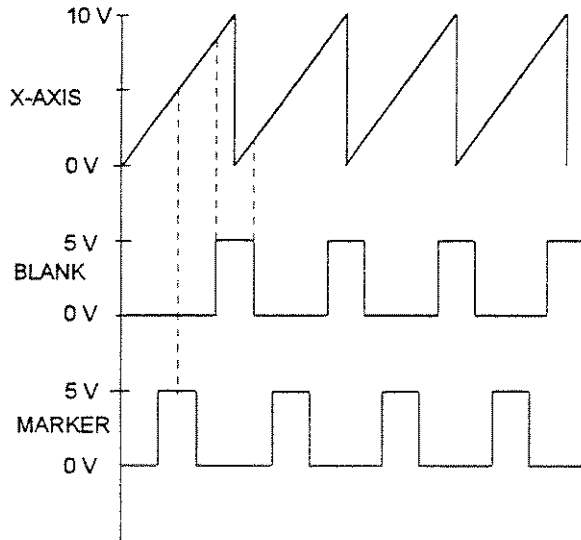

Fig. 2-52 Signal example sweep: MODE = AUTO, BLANK TIME = NORMAL
- AUTO** Sweep from the starting point to the stop point, with automatic restart at the starting point. If another sweep operating mode was activated prior to the AUTO operating mode, continuation is made from the current sweep setting (cf. Fig. 2-52).